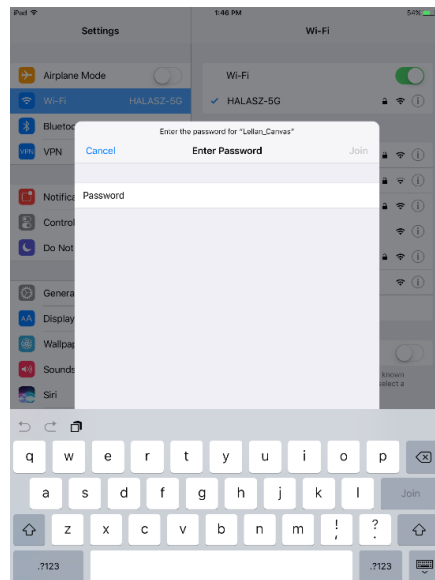

Figure 5-14: Entering password for *Lellan\_Canvas*
- Tap the *Lellan\_Canvas* entry. This will bring up a dialog asking for the password for *Lellan\_Canvas* (Figure 5-14). Enter *LEDLIGHTS* then tap the Join button.